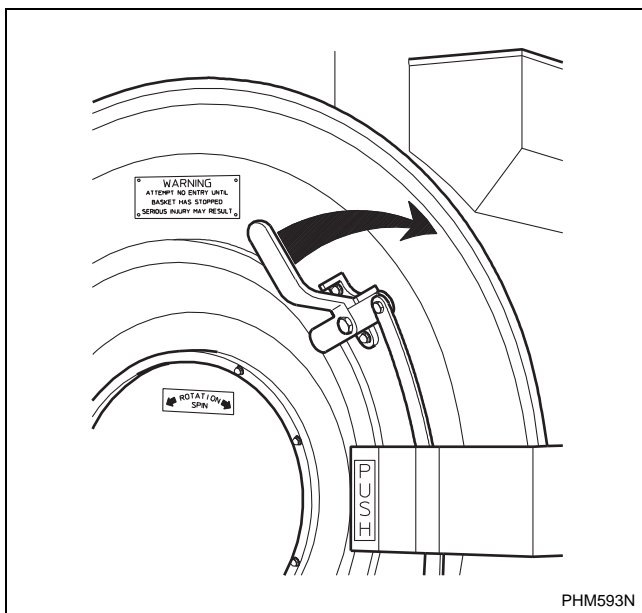

Figure 26
3. Use right hand to turn door handle clockwise and swing the door left to open. Refer to *Figure 26*.